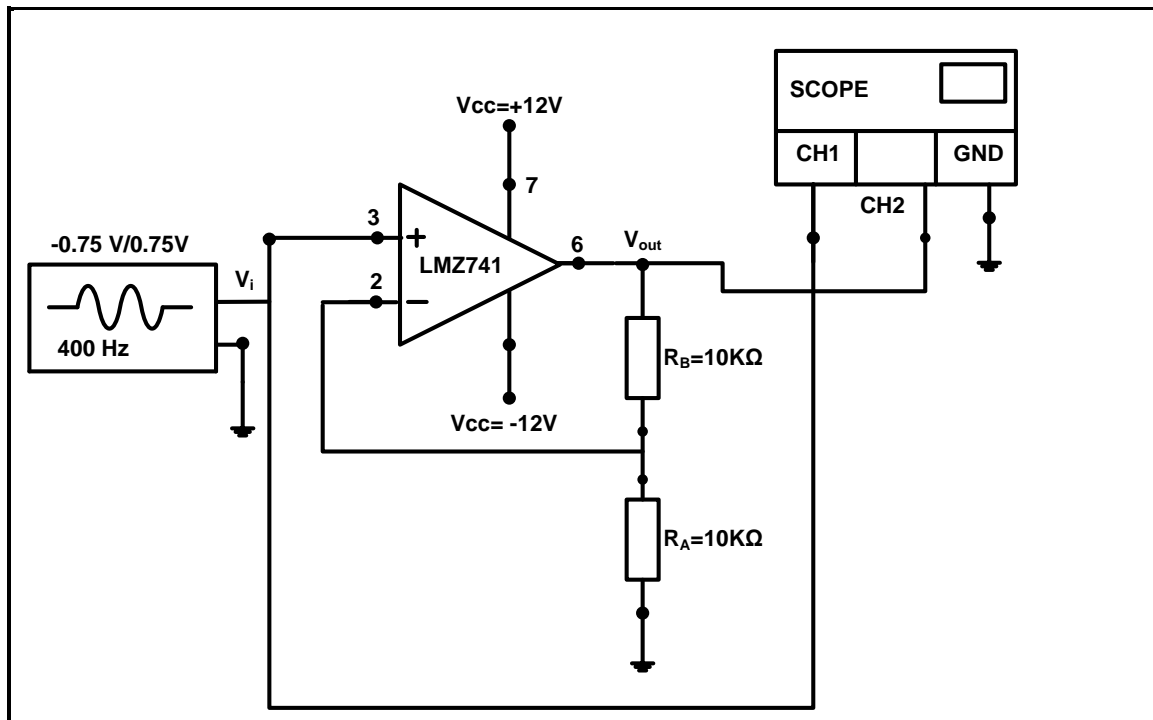

FIGURE 4.2.3: NON-INVERTING OP AMP
- (a) Construct the circuit on the breadboard as shown in FIGURE 4.2.3.